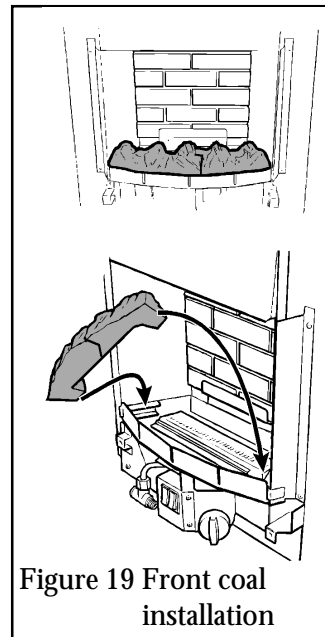

Figure 19 Front coal installation
10.2 Place the two halves of the front base coal in the burner compartment so that they rest on the ledges at the sides and front. Pull the coals forward so that they are immediately behind the front rim of the burner compartment (See figure 19).